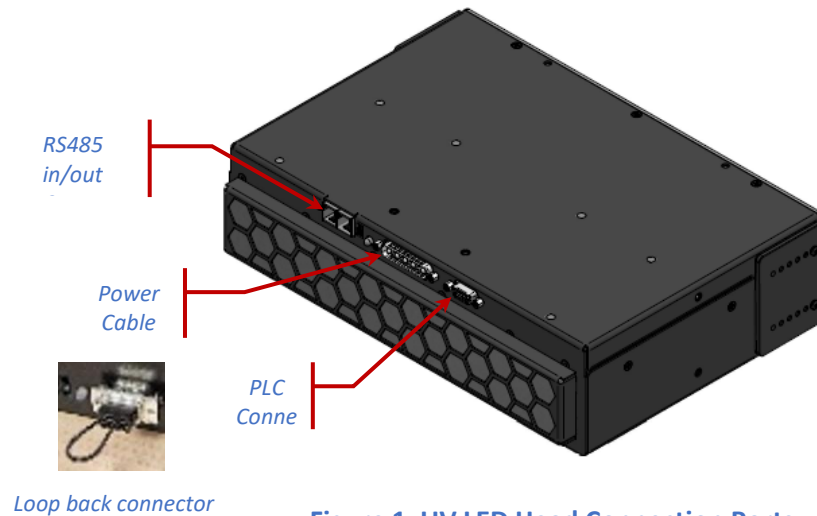

Figure 1 UV LED Head Connection Ports
3. Attach the male end of the power cable to the power supply unit and connect the female end of the power cable to the UV LED Head per Figure 1.
7. Connect the PLC loop-back connector to the PLC pass-through port (See Figure 1).